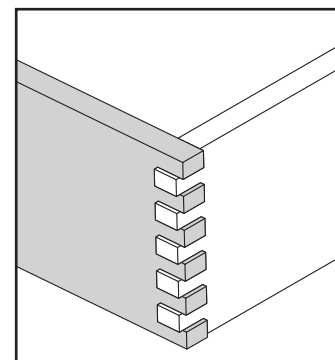
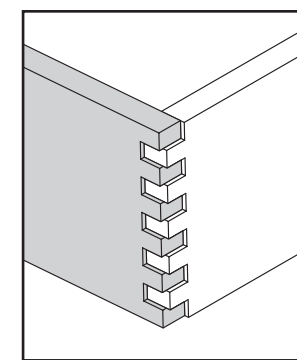
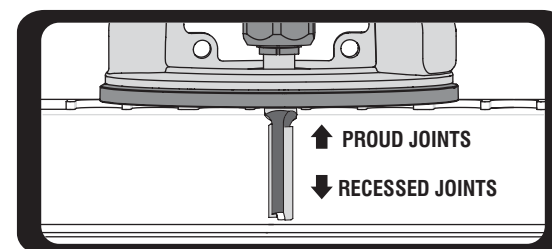

Fig. I22
Fig. I23
Fig. I24
**PROUD JOINTS:** If the end grain of either board is proud (i.e. is protruding over the other board as shown in Fig. I22), then the depth of cut on that board needs to be shallower. When the joint is proud, the bit should be raised (Fig. I24) to reduce the depth of cut accordingly before re-cutting both boards.
**RECESSED JOINTS:** If the end grain on either board is recessed (or sunk below the other board as shown in Fig. I23), then the cut on that board needs to be deeper. When the joint is recessed, the bit should be lowered (Fig. I24) to increase the depth of cut accordingly before re-cutting both boards.